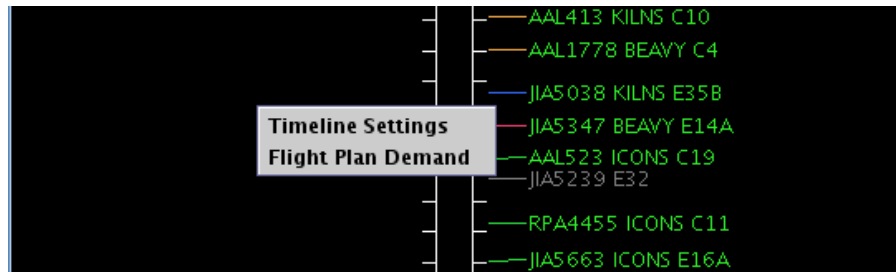

Figure 7. Right-click on the background of the Timeline to open timeline menu.
**Step 1:** Right-click anywhere on the Timeline background (anywhere not on a flight datablock) (Figure 7).
**Step 2:** Then click the "Ok" button. When the change is applied, the left labels at the top of the Timeline (Figure 7) and at the bottom on the reference line will have changed.